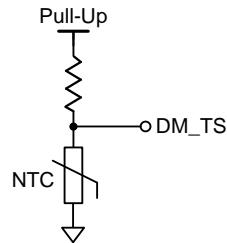

Figure 10. TS Function Connection
The device integrates temperature sense (TS) function to diagnose the external temperature with NTC thermistor. The voltage on NTC thermistor varies with different temperature. Figure 10 shows the DM_TS pin connection for the TS function. The device diagnoses TS OTP from the DM_TS pin ADC value if DM_TS_CFG(0x005F[6]) is set to 1. If the external sensing voltage is lower than TS OTP threshold, the device will stop charging and reset CHG_EN bit to disable. The temperature information is derived from the DM_TS pin ADC value. For using this function, enabling DM ADC conversion is necessary.